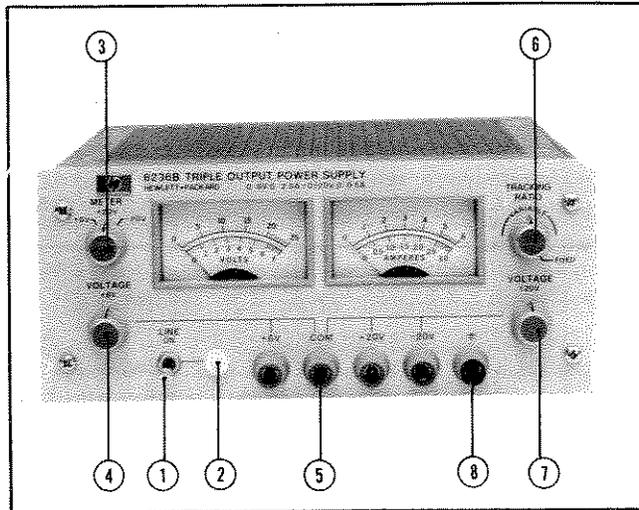

Figure 3-1. Controls and Indicators
3-2 The following steps describe the use of the Model 6236B or 6237B front panel controls and indicators illustrated in Figure 3-1 and serve as a brief check that the supply is operational. Follow this checkout procedure or the more detailed performance test of paragraph 5-6 when the instrument is received and before it is connected to any load equipment. Proceed to the more detailed procedures beginning in paragraph 5-6 if any difficulties are encountered.
3-7 This power supply can be operated individually or in parallel with another supply (see paragraph 3-19). All output terminals are isolated from ground. The $\pm 20\text{V}$ and $+6\text{V}$ or $+18\text{V}$ outputs use a single common output terminal. This common (COM) terminal or any one of the other output terminals may be grounded to the chassis at the front panel ground terminal (8) in Figure 3-1), or all outputs may be left floating. Loads can be connected separately between each of the 0 to 20V output terminals and the COM terminal, or between the -20V and the $+20\text{V}$ terminals for a 0 to 40V output.